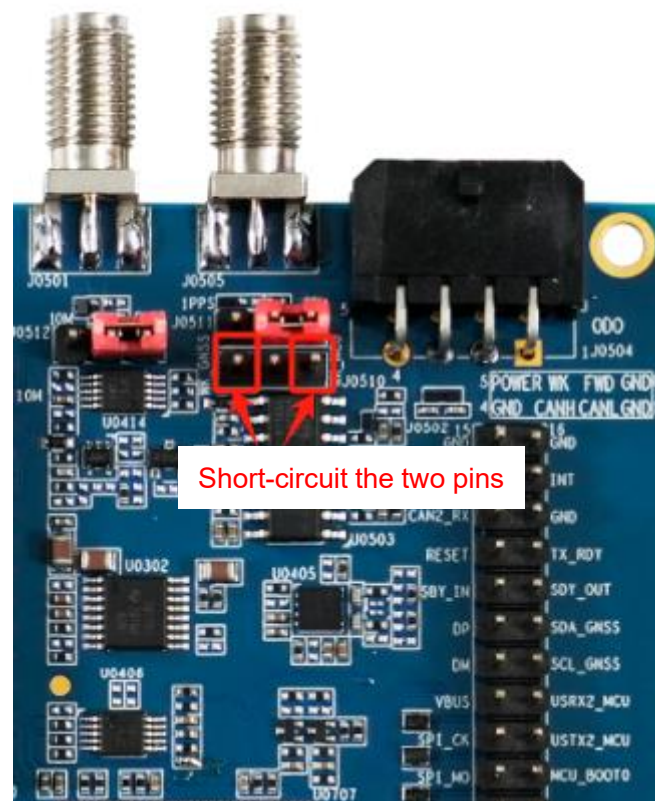

Figure 21: Connection Between MCU WHEELTICK and Module WHEELTICK
- To inject the converted vehicle speed into the module via WHELTICK (i.e., using wheel-tick pulses), refer to Figure 21: Connection Between MCU WHELTICK and Module WHELTICK to short-circuit the two pins of J0510.